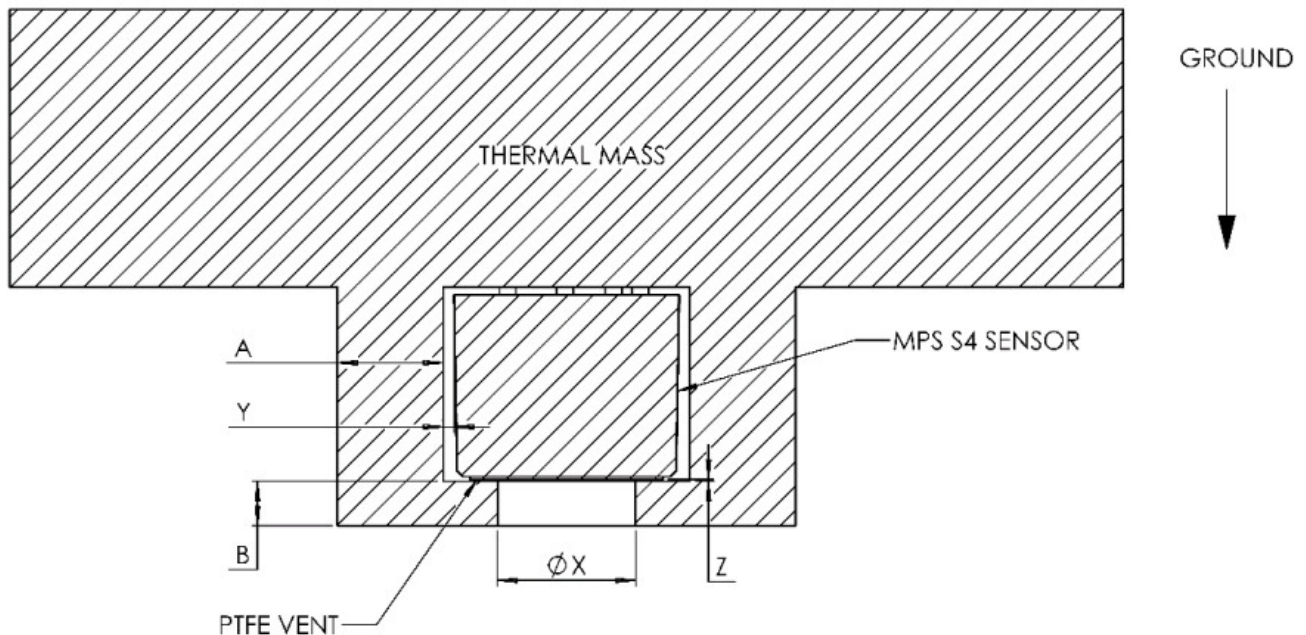

Figure 9: Reference enclosure design.
- The sensor should be installed so as to face down inside a cylindrical enclosure with an air inlet facing the ground. The recommended general installation is shown in Figure 9. The inlet diameter, X, should be sized at approximately 14 mm, and the air gap, Z, should be less than 2 mm. Radial spacing, Y, between the sensor and the enclosure should be 1-3 mm.